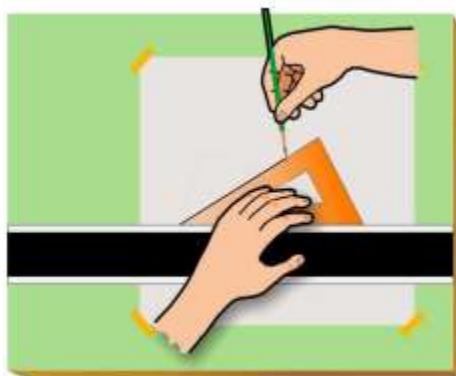

Figure 3 Darkening the Line between the Tick Mark
- Align the edge of the 30-60 triangle with the construction line and draw a dark visible line along the top edge of the triangle between the tick marks. See Figure 3.